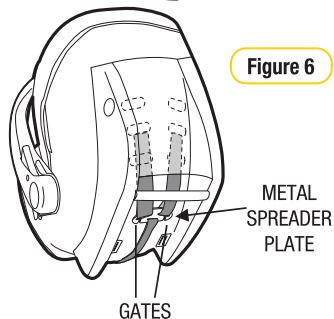

Figure 6
Step 5: The harness shoulder straps go directly from the shoulder slot holes to the spreader plate. Thread each shoulder harness strap back onto the metal spreader plate through the gates (see Figures 6 & 7).